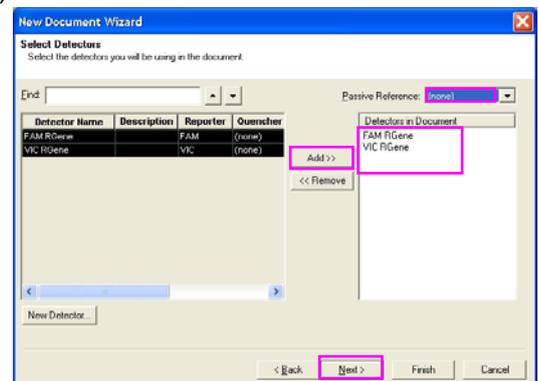

Fig.8
- The two detectors created appear in the list of detectors (Fig.8).
- The two detectors selected appear now in the field **DETECTORS IN DOCUMENT** (Fig.8).